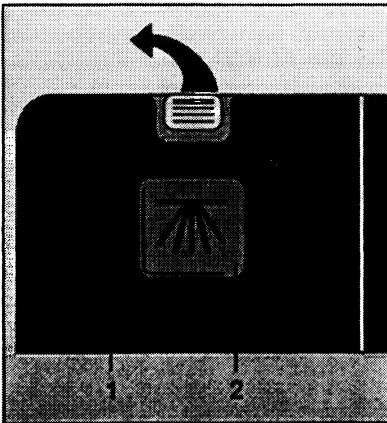

Fig. 8
- Press the lever forward (Fig. 8/1). The lid springs open.
- Close the lid of the dispenser until it clicks shut. In case of heavily soiled dishes, it is possible to add extra detergent to the tray on top of the dispenser lid (Fig. 8/2). Fill until level. The extra detergent will be added during the prewash.